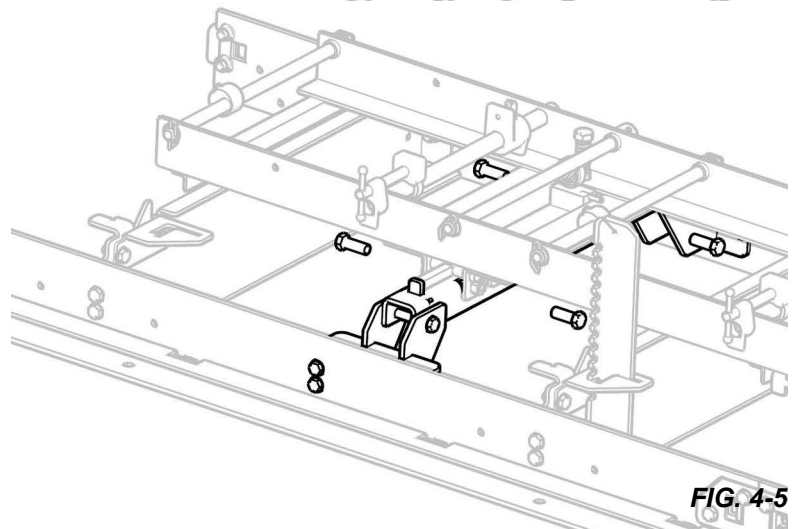

FIG. 4-5
7. Secure SLR in rear, Section FIG. 4-5